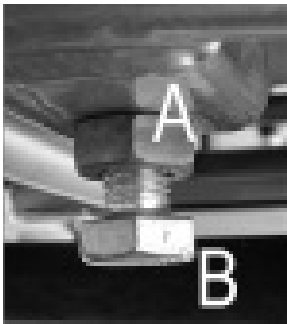

Figure 8a
5A1. Referring to Figure 8a, loosen the chain jack-screw locknut (B) and tighten or loosen the adjusting bolt (A) to tighten or loosen the chain as needed.